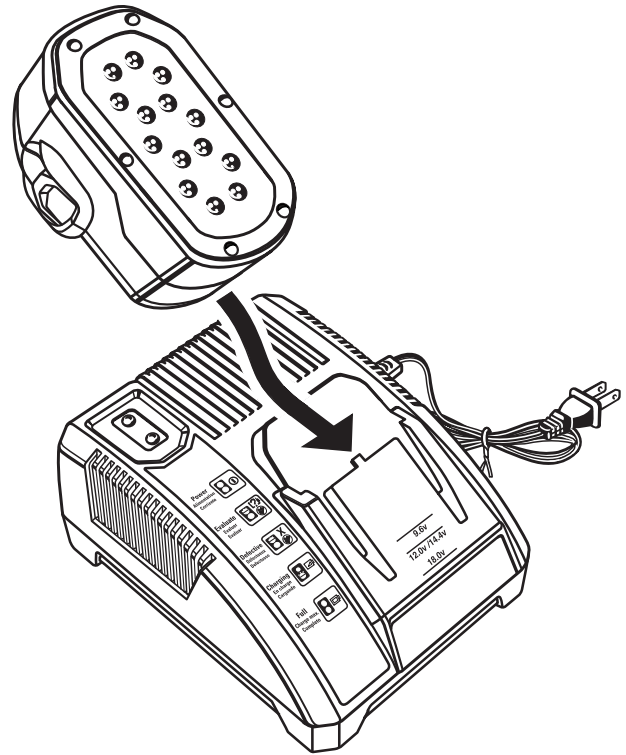

Fig. 5
- Attach the battery pack to the charger by aligning the raised ribs on the battery pack with the grooves in the charger, then slide the battery pack onto the charger. *See Figure 5.*